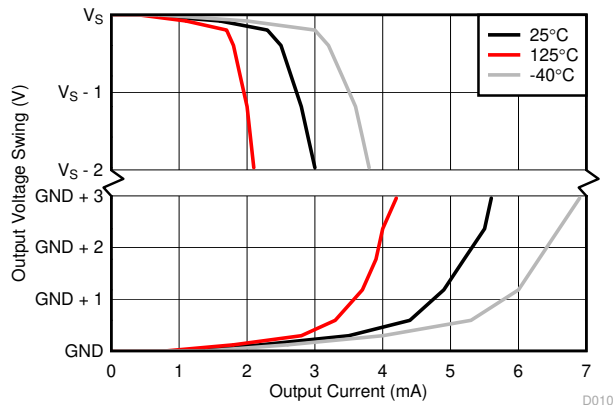

图 7-13. Output Voltage Swing vs Output Current
(1) See the Input Signal Bandwidth section for more details.
(2) See Figure 7-13.